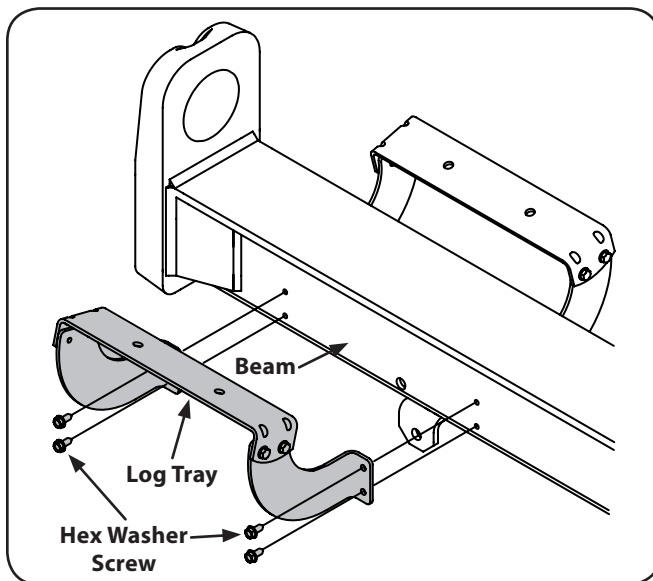

Figure 3-7
- Insert all six bolts loosely into threaded holes of the log tray and the beam for alignment and assembly purposes. See Fig. 3-7.